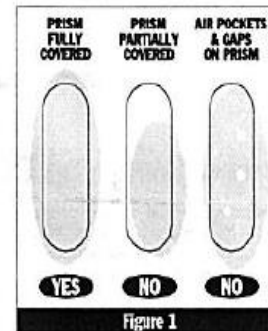

Figure 1
- 3 Gently close the daylight plate over the prism. The distilled water should spread as a thin, even layer in between the daylight plate and the prism. By looking through the daylight plate, ensure that the distilled water covers the ENTIRE surface of the prism. If there are bubbles and gaps or if the distilled water is only on one portion of the prism, the distilled water must be reapplied (Figure 1). Inaccurate calibrations will result if the prism is not covered correctly.
2. Gently close the daylight plate over the prism. The sample solution should spread as a thin, even layer in between the daylight plate and the prism. By looking through the daylight plate, ensure that the sample solution covers the ENTIRE surface of the prism. If there are bubbles and gaps or if the sample is only on one portion of the prism, the sample solution must be reapplied (Figure 1). Inaccurate readings will result if the prism is not covered correctly.